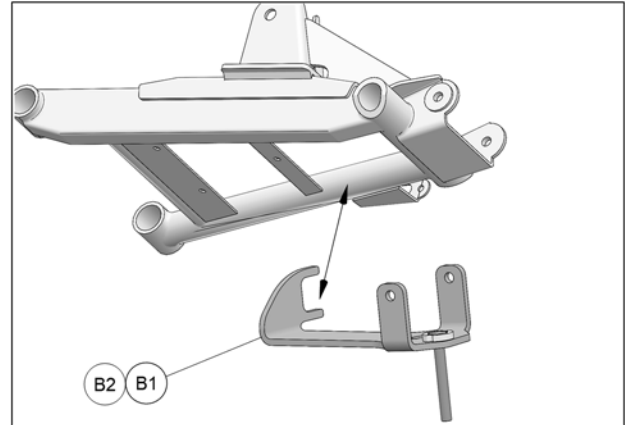

Fig. 7
6. Position rear anchor bracket (B1-B2) under lower suspension arm. Hook rear end of bracket on suspension arm member facing front of vehicle. See Fig. 7